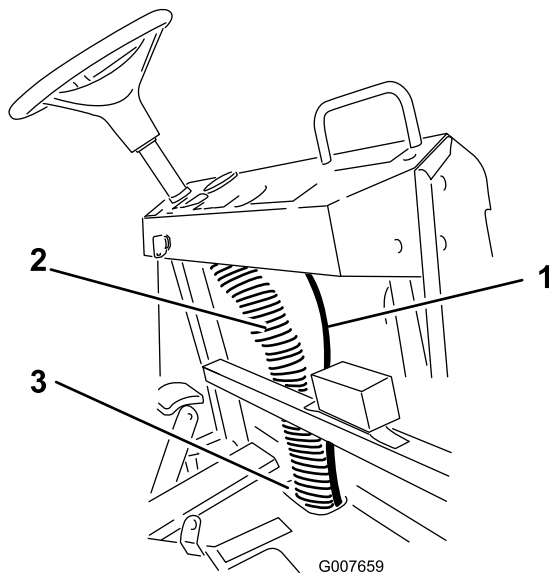

Figure 14
4. Route the hose upward to behind the right side of the dashboard (Figure 14).
5. Secure the hose to the column of the existing wiring (Figure 14).